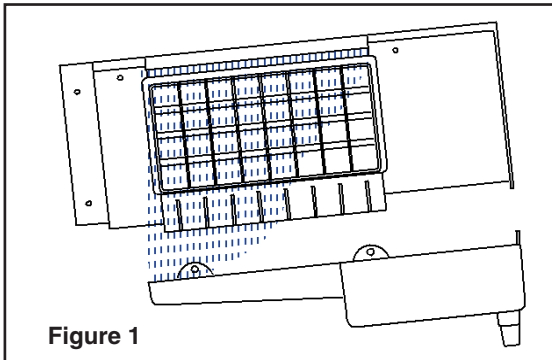

Figure 1
- Uneven sized cubes will be formed. Ice production will be reduced and water spilling into the storage area can occur, causing the ice in the bin to melt prematurely. **See Figure 1.**